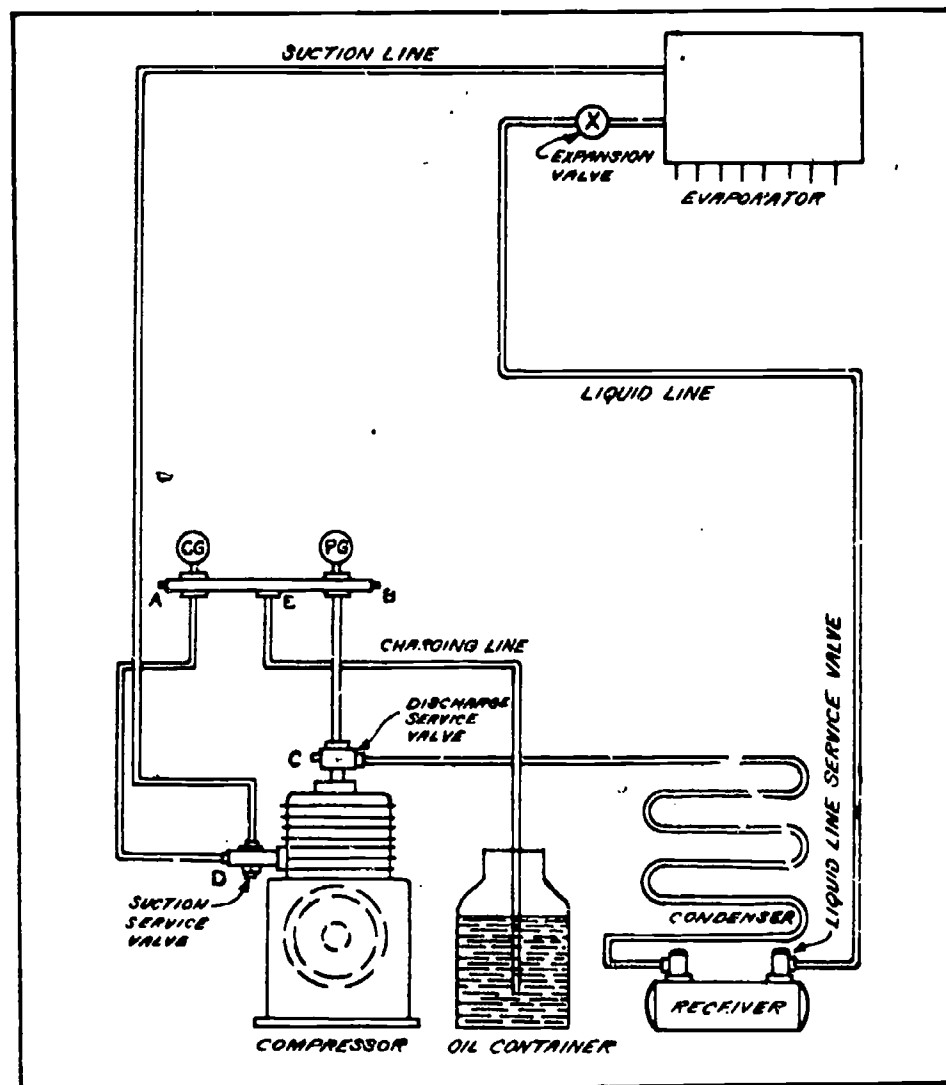

Fig 3-18. Adding oil to the compressor, vacuum method.
- (b) Vacuum method (fig 3-18). To add oil to the compressor using the vacuum method, proceed as follows: